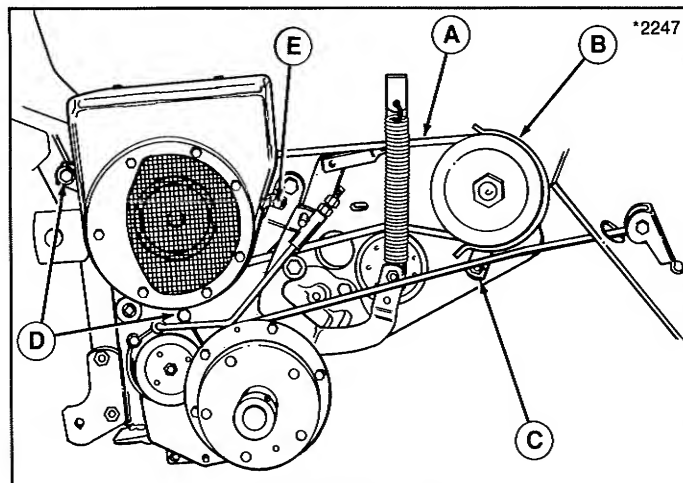

Figure 20. Drive Belt Replacement
3. Remove the capscrew (C, figure 20) and remove the belt guard assembly (B).
4. Remove the two capscrews (D) and the taplite screw (E) to remove the fan guard assembly.
6. Reinstall the fan guard with the capscrews (D) and the taplite screw (E).
8. Reinstall the belt guard (B) so the bracket on the back side almost touches the pulley hub. Hold the guard in place and tighten the capscrew (B).